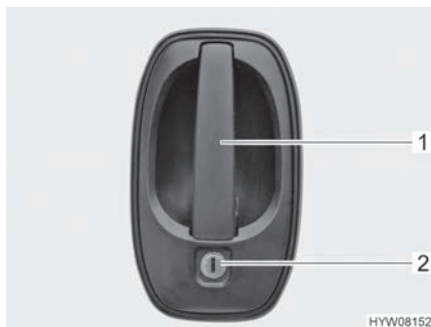

Fig. 22 Door lock (driver's door/conversion door, outside)
- Insert the key into locking cylinder (Fig. 22,2) and turn until the door lock is unlatched.
- Pull on the door handle (Fig. 22,1). The door is open.
- Insert the key into locking cylinder (Fig. 22,2) and turn until the door lock is engaged.